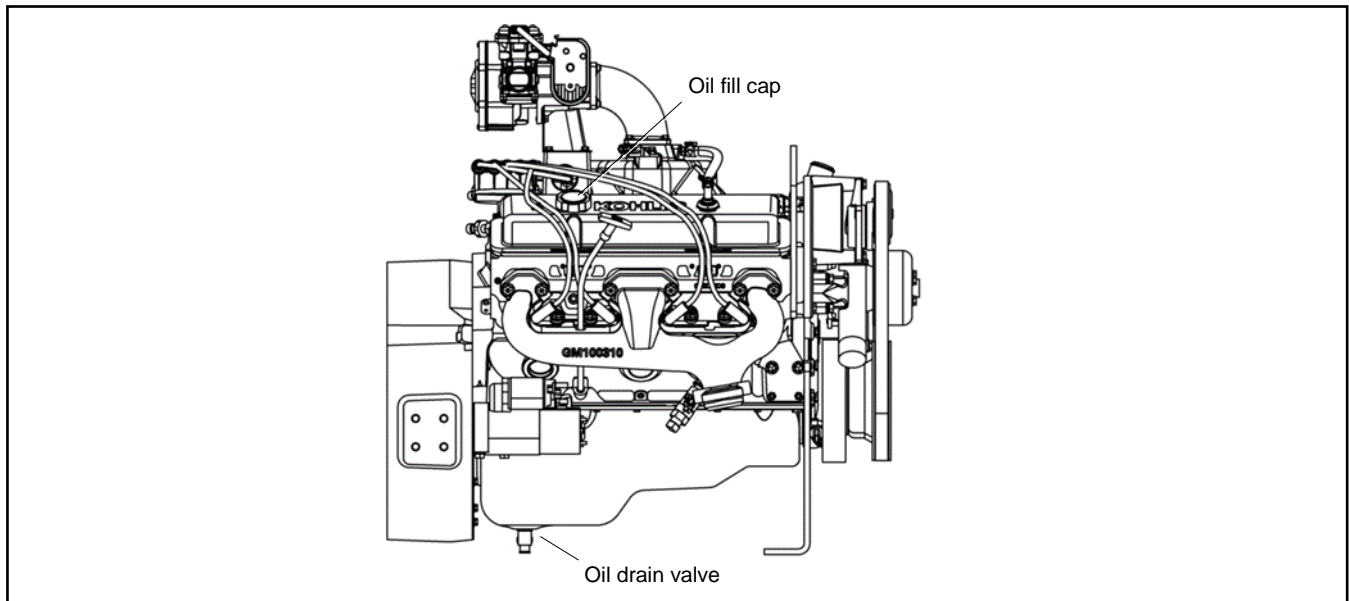

Figure 24 Oil Fill and Drain Valve Location
2. Place a drop cloth and collection container beneath the oil drain valve. See Figure 24.